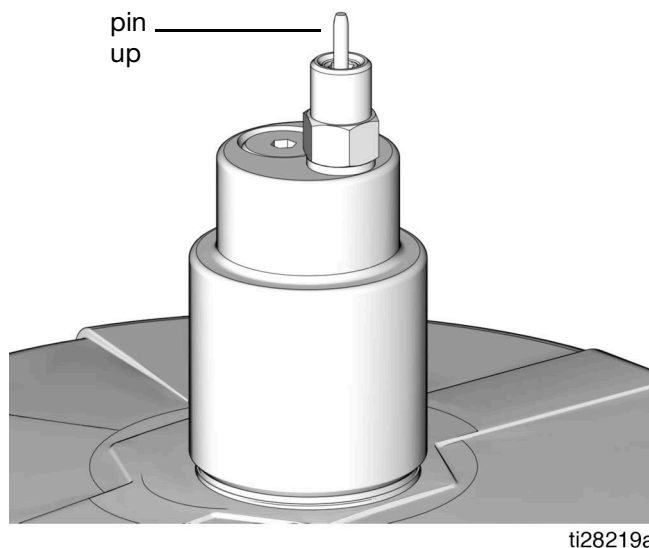

FIG. 23
3. Remove yellow Dust Cover from Fill Coupler (M).
4. Connect the Supply Hose (J) between the Remote Filling Station Pump (F) and the Fill Coupler port marked with an "I".
5. Start the Remote Filling Station Pump (F).
6. When the G3 Reservoir (D) is filled:
- the Remote Filling Station Pump (F) stalls (dead-heads),
- the Auto-Fill Shut Off (B) pin pops up as shown in FIG. 23,
- the Pressure Gauge (R) rises to the fill pump's set pressure.